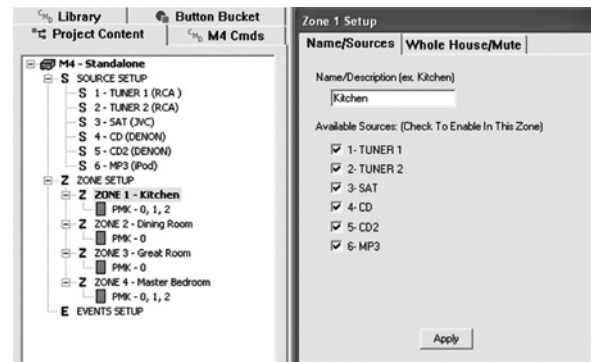

Figure 4 Zone (1) Naming
- Click **Apply**. The name will now appear next to the zone number under **ZONE SETUP** within **Project Content**. Refer to **Figure 4**.